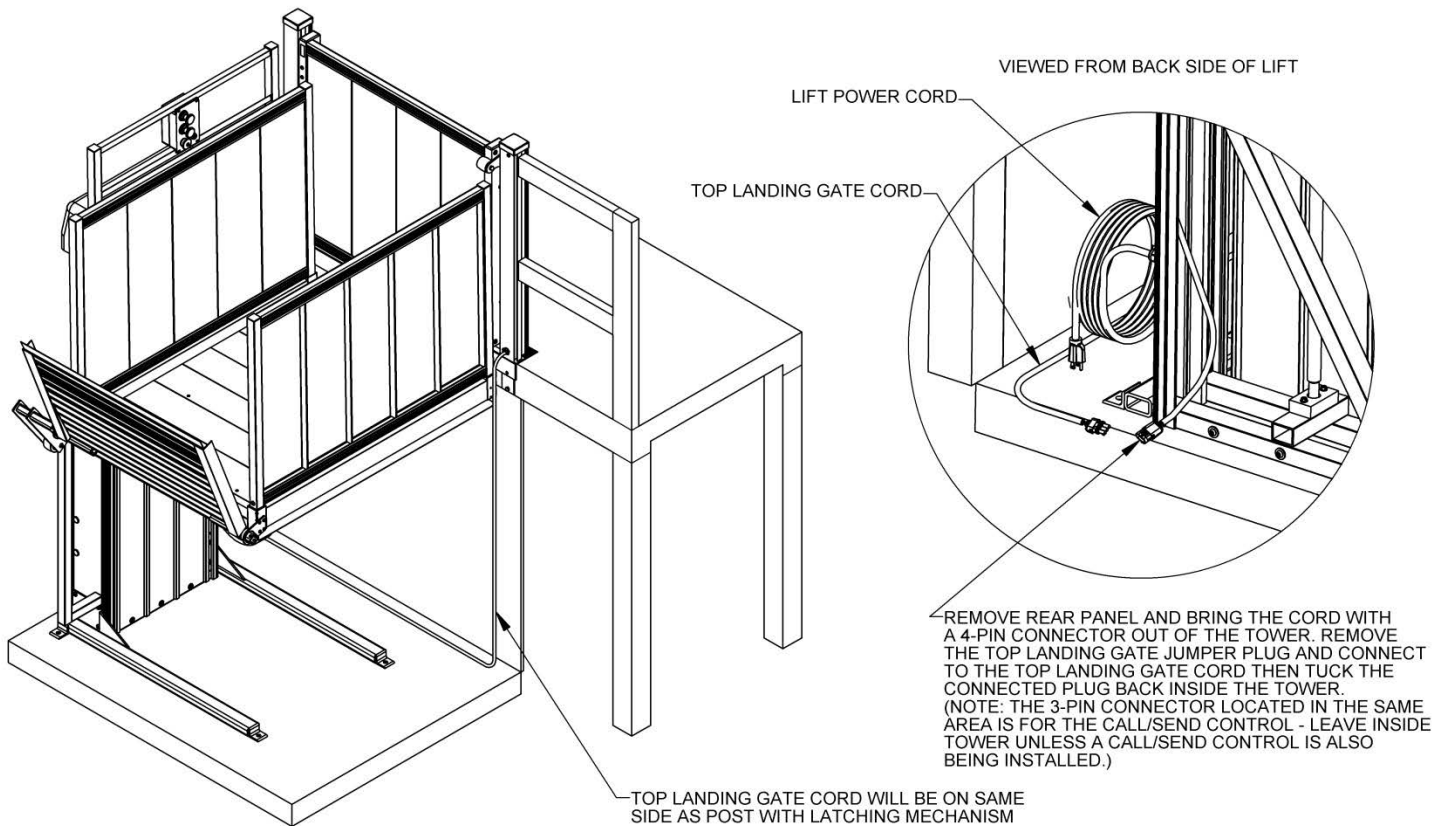

FIG. 6.4
- Before connecting the Top Landing Gate cord, the VPL Platform must be set at the upper landing level. Proceed with Steps 15 through 33 in Section 4 if not already complete. Connect the Top Landing Gate cord to VPL by first removing rear cover. There will be a cord with a 4-pin connector inside the tower located in the area where the power cord exits the tower. Bring this cord out of the tower and remove the Top Landing Gate jumper plug from the connector. Connect the Top Landing Gate cord and tuck the connected plug back inside the tower (FIG. 6.4).